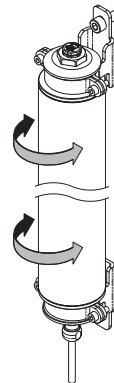

Fig. 4
4. Power the emitter and receiver on to perform beam alignment (Fig. 4).